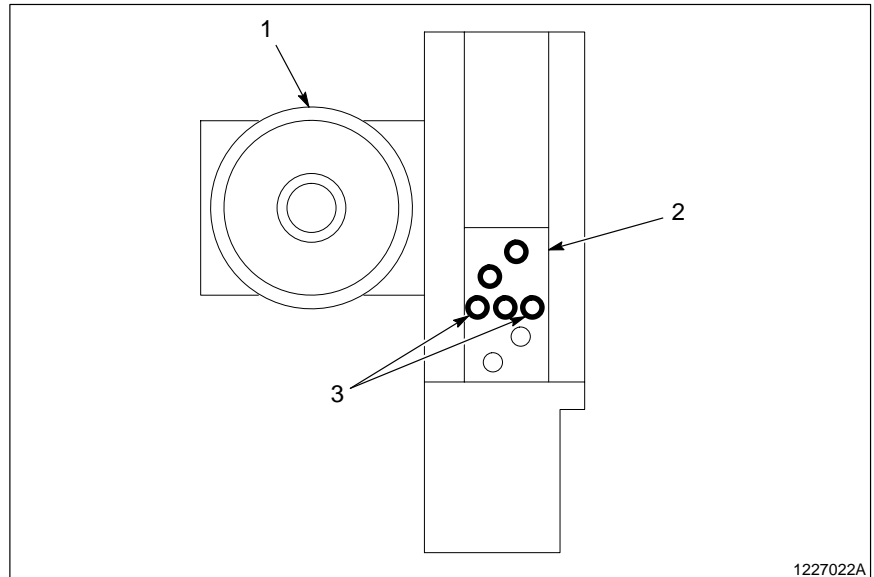

Fig. 6-14 Installing the Solenoid Valve Gasket
See Figure 6-14.
NOTE: All three ports and two mounting holes must be visible through the gasket. These are the dark holes shown in Figure 6-14.
1. See Figure 6-14. Use the micro-adjust cap (1) to gently seat the needle in the extension.